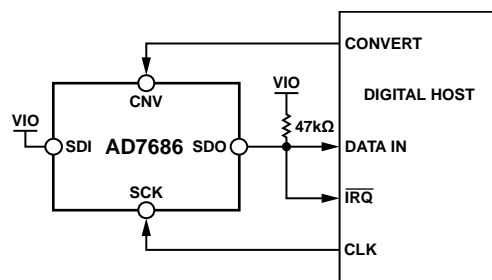
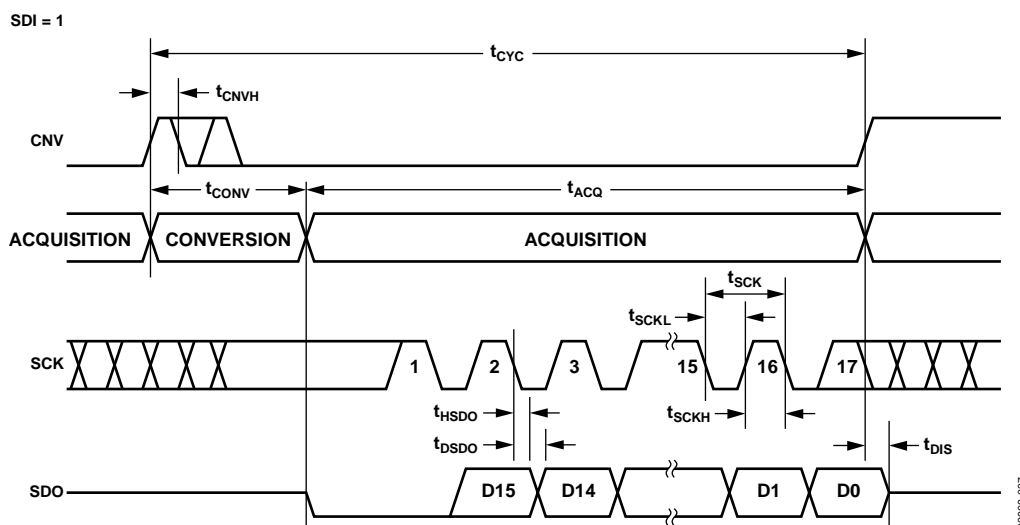
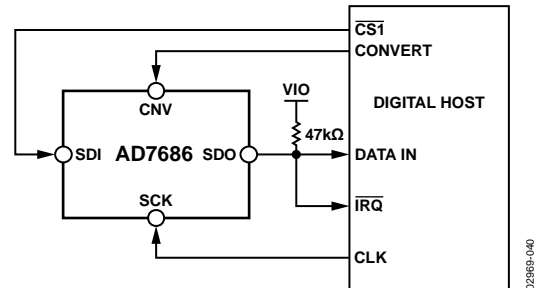
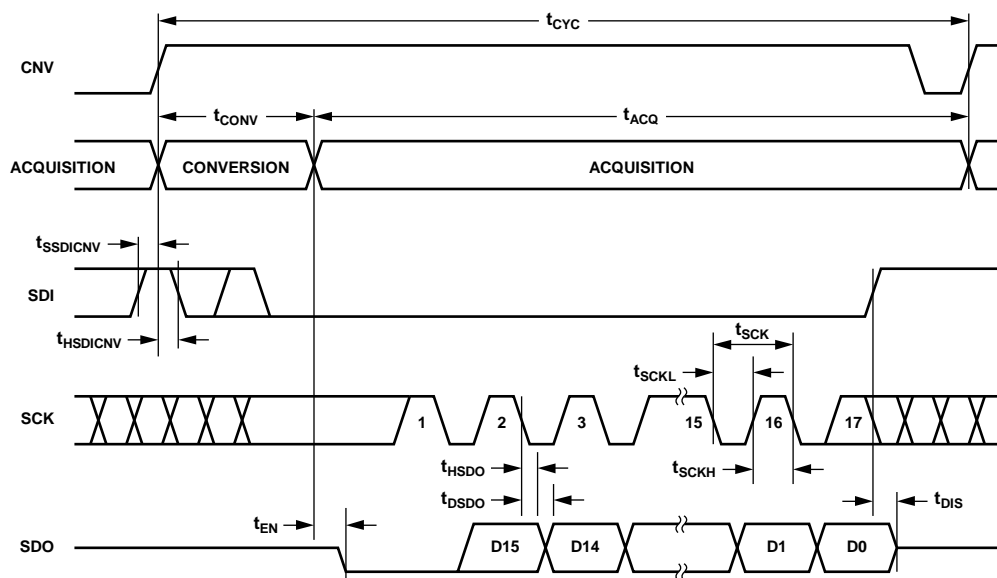

Figure 35. \overline{CS} Mode 3-Wire with Busy Indicator Connection Diagram (SDI High)
Figure 36. \overline{CS} Mode 3-Wire with Busy Indicator Serial Interface Timing (SDI High)
Figure 39. CS Mode 4-Wire with Busy Indicator Connection Diagram
Figure 40. CS Mode 4-Wire with Busy Indicator Serial Interface Timing
- In \overline{CS} mode, if CNV or SDI is low when the ADC conversion ends (see Figure 36 and Figure 40).
This mode is generally used when a single AD7686 is connected to an SPI-compatible digital host having an interrupt input. The connection diagram is shown in Figure 35, and the corresponding timing is provided in Figure 36.
This mode is usually used when a single AD7686 is connected to an SPI-compatible digital host, which has an interrupt input, and when it is desired to keep CNV, which is used to sample the analog input, independent of the signal used to select the data reading. This requirement is particularly important in applications where low jitter on CNV is desired. The connection diagram is shown in Figure 39, and the corresponding timing is provided in Figure 40.